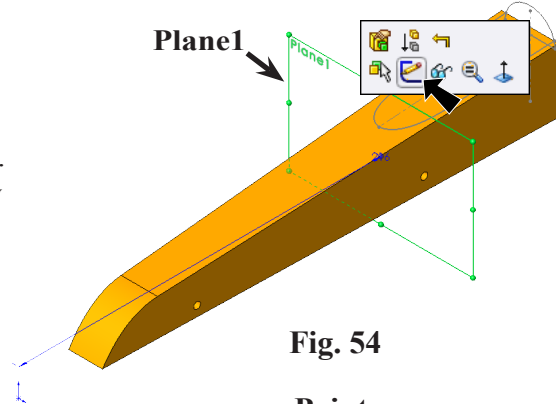

Fig. 54
Step 1. Click new **Plane 1** and click **Sketch**  on the Content menu, **Fig. 54**.